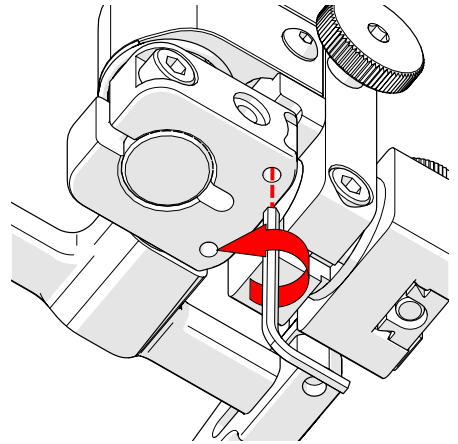

Fig. 126 - Lower 90° stop post
7. Locate the recessed M3 screw on the bottom of the probe holder. Unscrew the stop post using a 1.5 mm hex wrench (Fig. 54) until it has cleared all obstructions. Do not remove the stop post (Fig. 126).